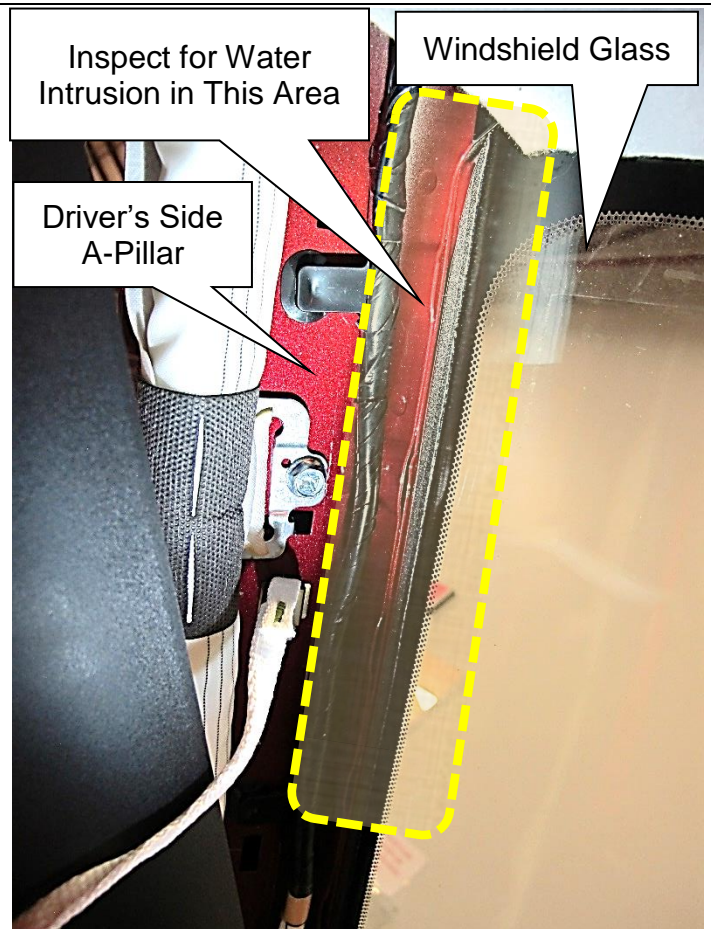

Figure 10
- Inspect the area shown in Figure 10 for water intrusion